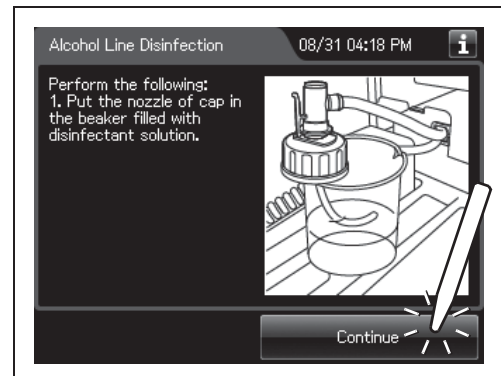

Figure 7.112
- 23** When the touch screen display changes as shown Figure 7.112, put the nozzle of alcohol cap in the beaker filled the disinfectant solution.